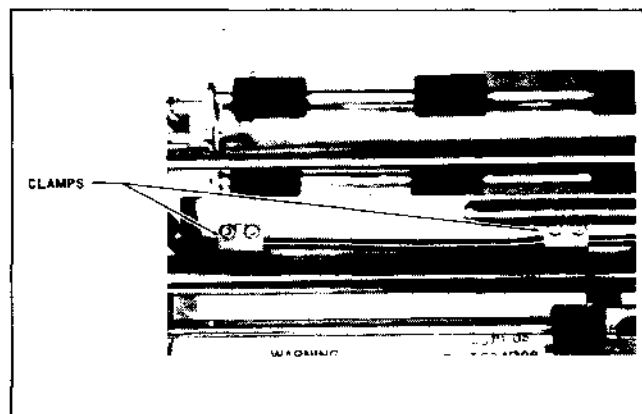

Figure 3-13. Cable Clamp Removal
*If the optional Bottom Feed Paper Chute is installed, skip to Step (6).*
- (5) Refer to Figure 3-13. Using the TORX T15 screwdriver, reach down behind the left end of the rear carriage rail and unscrew the four (4) #6-32 x 1/2" screws holding the white plastic spring cable clamps to the bottom plate. Retrieve and store these screws. Reach down behind the right end of the rear rail and remove the large spring cable shield from the two spring clips holding it to the bottom plate.